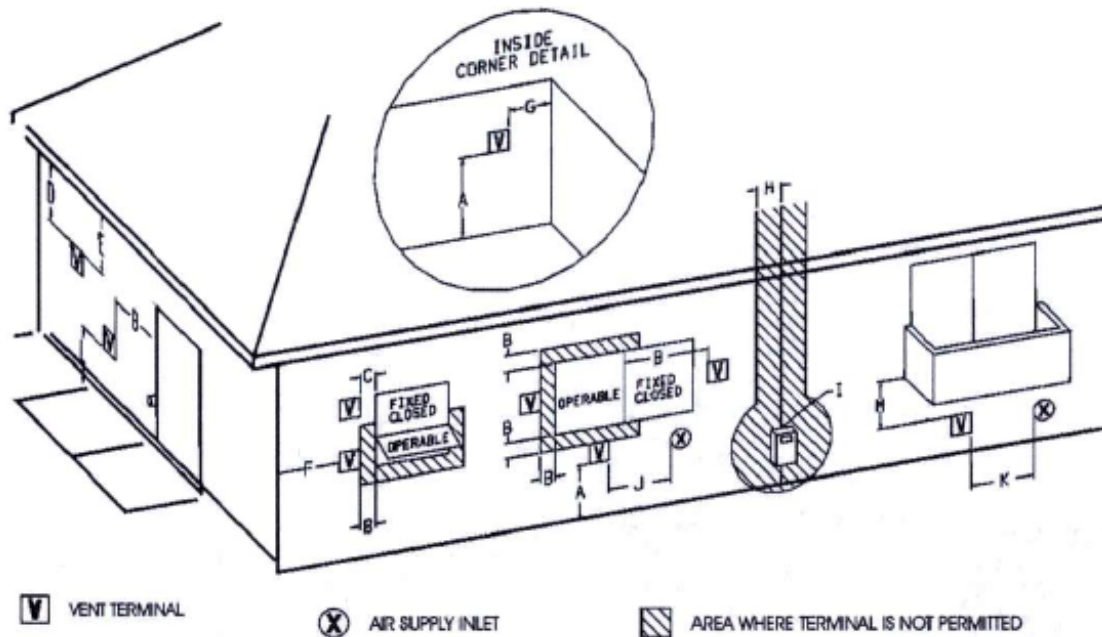
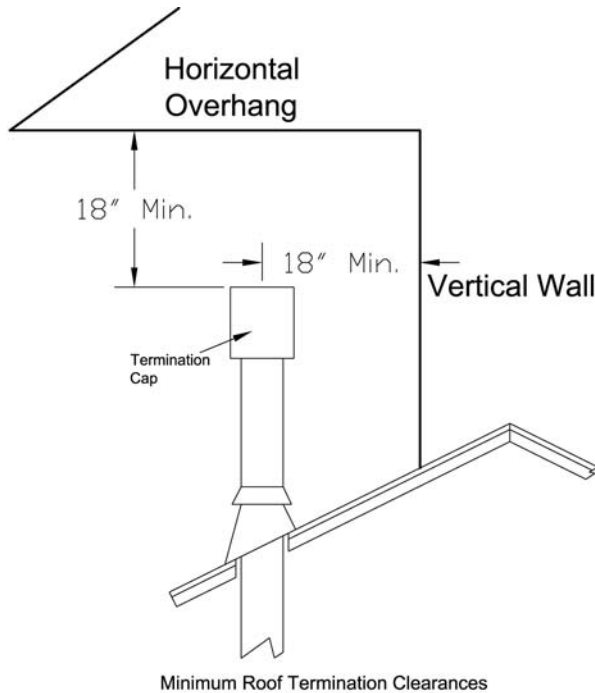

Figure 8: Termination Location & Clearances
Figure 9: Termination Cap clearances
- The termination must meet the requirements outlined in Figure 8 and Figure 9.
- The termination must meet the requirements outlined in *Figure 8 & 9*. Use a vinyl siding Stand off when installing against vinyl siding.